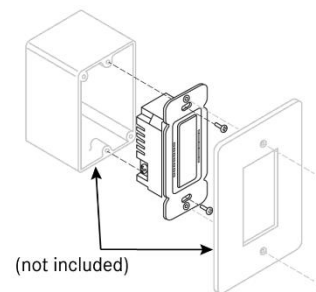

Figure 4 – Mounting
9. Using the (2) screws provided, affix the switch to the electrical box as shown in Figure 4.
10. Complete the install by placing a decorative cover plate over the switch. Separate the mounting bracket from the cover plate. Attach the mounting bracket using the (2) screws provided. Snap on the decorative cover plate. Restore the power at the breaker panel and test.